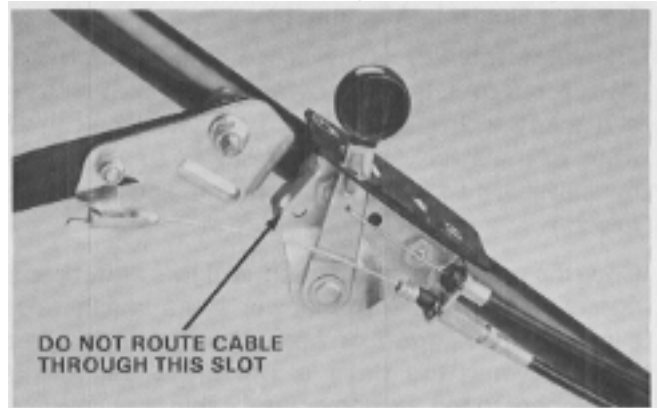

Figure 29
- Slip the new traction control cable onto the control bar bracket and secure to the control assembly as shown in Figure 29.